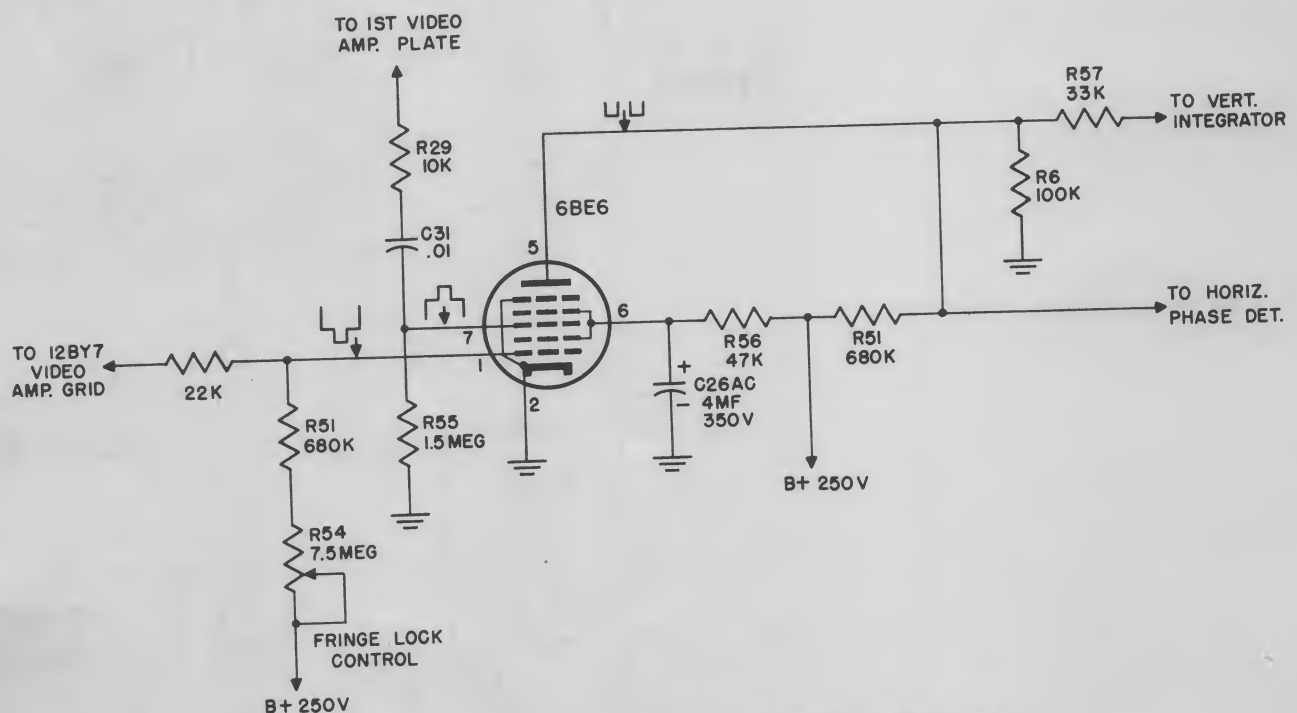

Fig. 5-3. Sync clipper and fringe lock circuit: Zenith Super "K" chassis.
3. PENTAGRID SYNC SEPARATOR AND NOISE CLIPPER. Recently, there has been a marked trend toward the use of a pentagrid tube to accomplish sync separation and noise clipping. Figure 5-3 is the schematic diagram of the Zenith sync clipper and fringe lock circuit used in the K chassis.